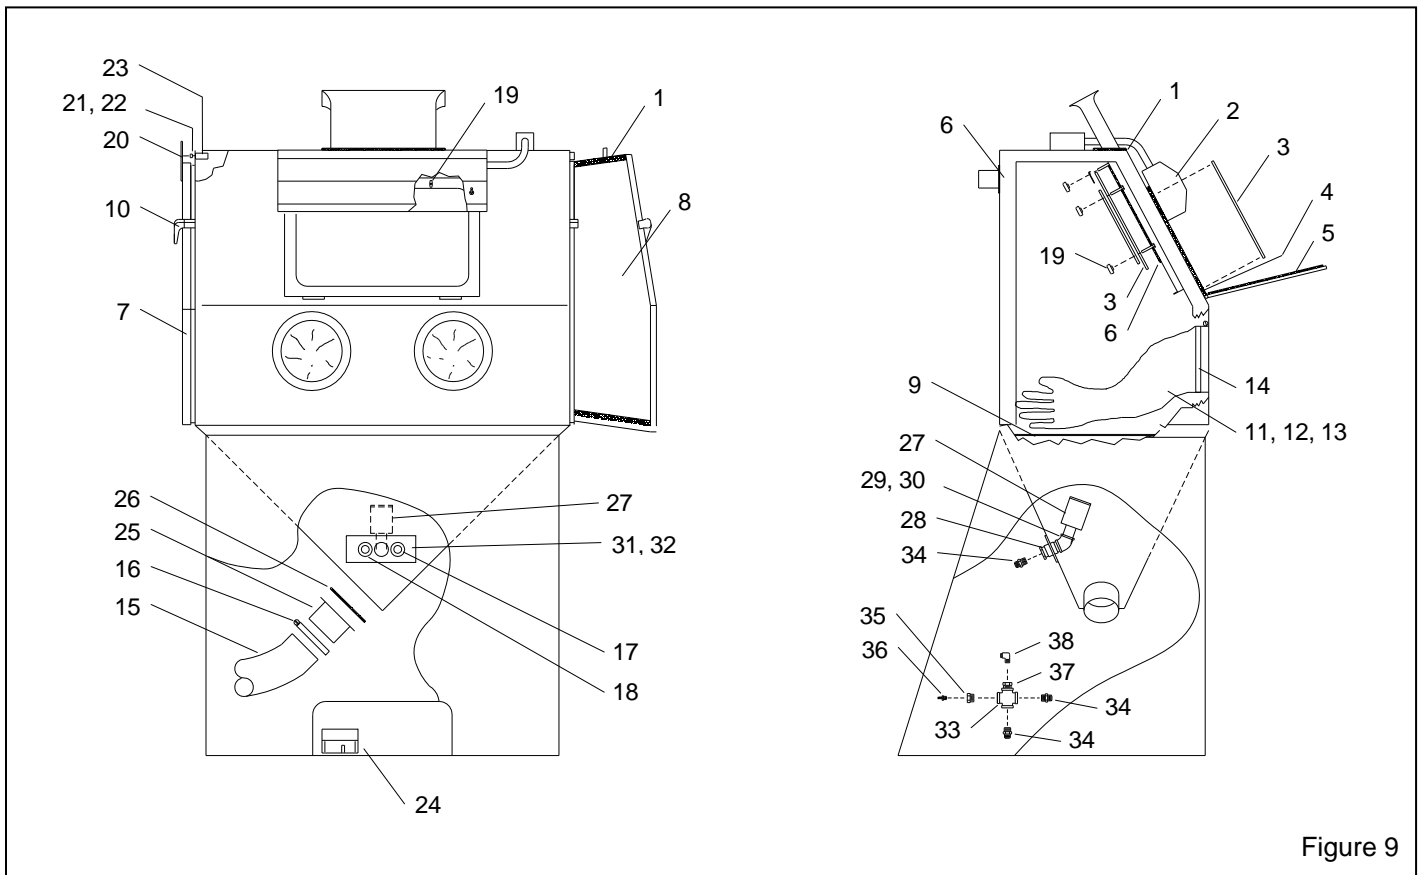

Figure 9
8.10.1 Inspect the exhaust hose and outlet muffler for blockage. The muffler (Item 27, Figure 9) is located on the inside of the cabinet hopper.
9.2 Cabinet Replacement Parts, Figure 9